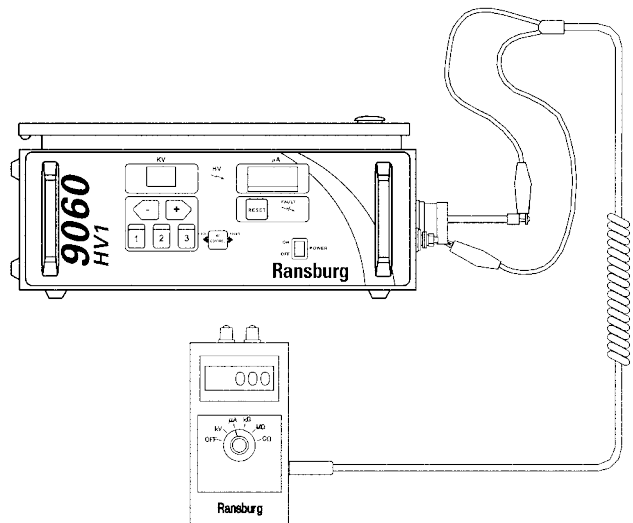

Figure 5: Testing SCI on Power Supplies
1. Set the meter dial to the  $\mu\text{A}$  scale (see Figure 5). Plug the probe with two (2) alligator clamp leads into the side of the meter. Ensure the meter reads zero. If it does not read zero, consult the factory for repair of the meter.
1. Set the meter dial to the  $\mu\text{A}$  scale (see Figure 5). Plug the probe with two (2) alligator clamp leads into the side of the meter. Check the meter calibration by touching the metallic ends of the two (2) probes together. If the meter reads zero, the meter is in calibration. If it does not read zero, verify the continuity of the probe assembly and re-perform the check. If the meter still does not read zero, consult the factory for repair of the meter.